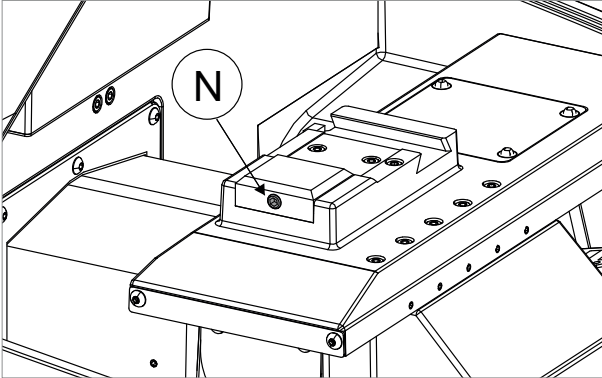

Fig. 75
- 2) Loosen the grub screw (N) (Fig. 75).